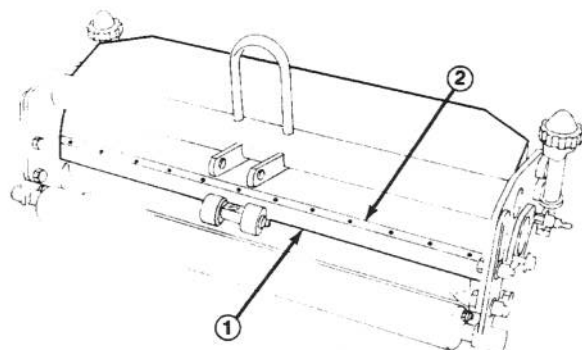

Figure 13
6. To reinstall, slide bedbar into position between side plates making sure each end of bedbar is under shield (Fig. 13).